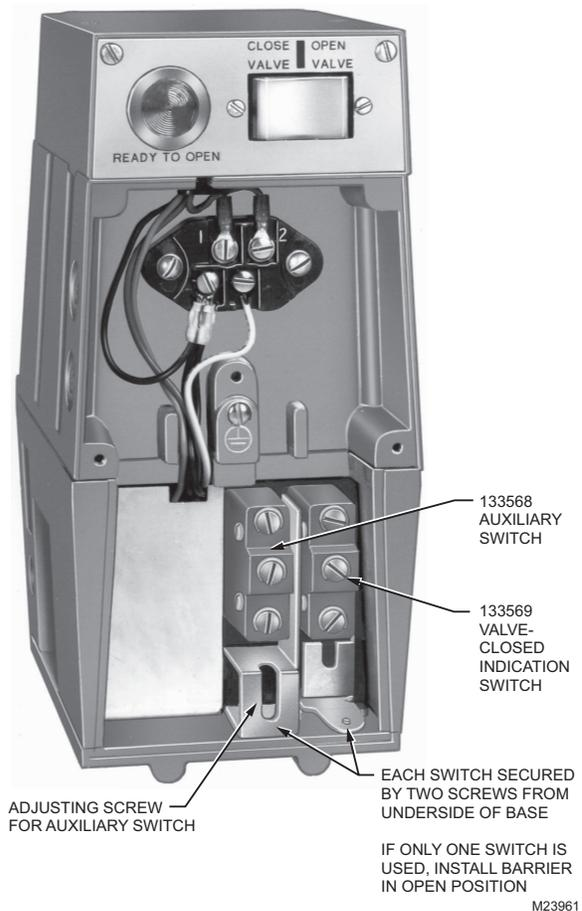

Fig. 2. V4055 actuator with cover removed.
3. Insert the auxiliary switch in the position indicated in Fig. 2. Fasten with 2 screws through the actuator base.
4. Insert the valve-closed indication switch in the position shown in Fig. 2. The valve-closed indication switch mounts against the side of the actuator housing. The mounting holes are spaced to mount the switch only in the correct position. Fasten with 2 screws through the actuator base.
The auxiliary switch is adjustable throughout the stroke of the actuator. With the switch installed in the actuator, turn the adjusting screw (Fig. 2) clockwise ↻ to cause the switch to operate earlier in the stroke or counterclockwise ↻ to cause the switch to operate later in the stroke.